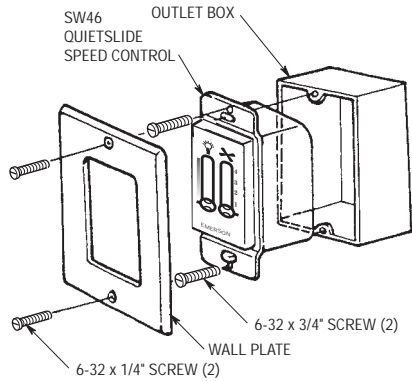

Figure 3
4. Attach the fan/light control to the outlet (wall) box using two 6-32 x 3/4" screws supplied (Figure 3). Install the wall plate using two 6-32 x 1/4" screws supplied.